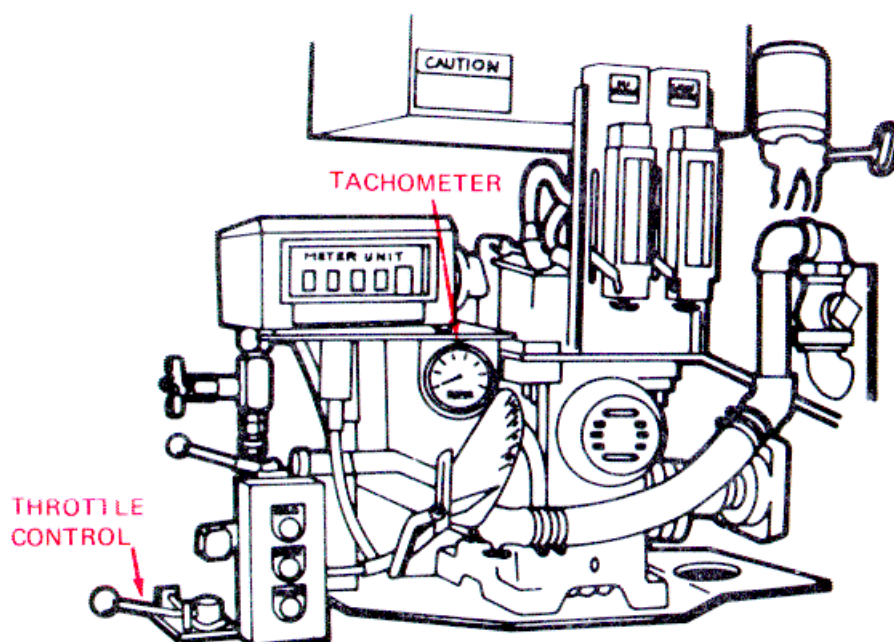

Figure 2-25. Throttle Control
- (1) Open throttle control until tachometer reads 900-1000 rpm (fig. 2-25).
- (2) Open the washout hose valve. Spray water from the washout hose until it flows in a steady stream.
- d. Adjust Pump Speed. (See fig.2-25.). Adjust throttle control until the tachometer reads 1620-1720 rpm.